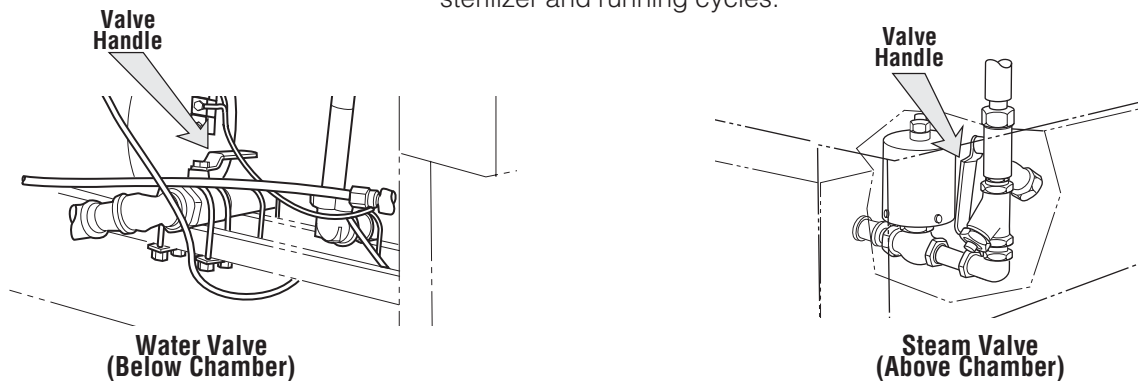

Figure 5-1. Utility Supply Valves
3. Under normal operation utility supply valves remain open. Verify valves are in OPEN position (see Figure 5-1).